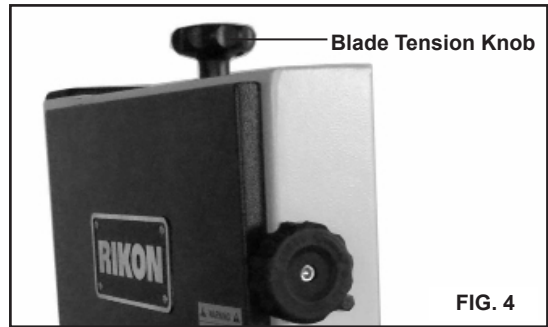

FIG. 4
d. Place the blade tension knob on to the blade tensioner located at the top of the frame (See Fig. 4).